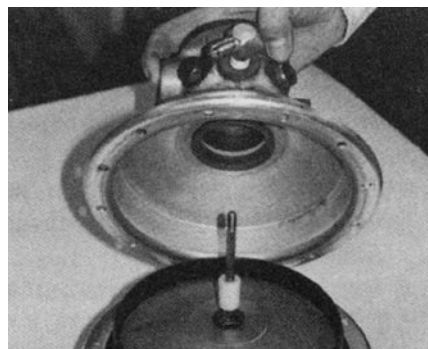

Figure 7-9 Air valve and upper housing assembly ready for attachment to lower housing assembly.
- 7.14 Install air valve and upper housing assembly onto fluid body and lower housing assembly. Be sure the two elbow fittings for the tube assembly (48) are aligned with each other for later assembly. See Figure 7-9.